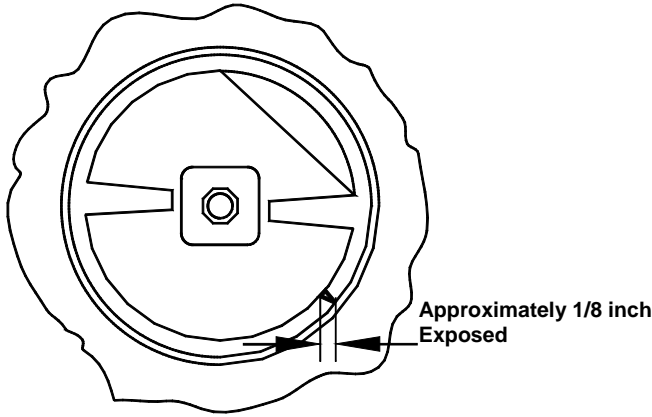

Fig. 19
- g. While maintaining force against the dasher, rotate it slowly until the tongue of the dasher engages the groove in the drive system at the rear of the cylinder. The outer most portion of the dasher should be recessed approximately 1/4" (6 mm) to 3/8" (10 mm) inside the freezing cylinder. No part of the dasher should extend outside the cylinder. Scraper blades should be visible, extending approximately 1/8" (3 mm) beyond the dasher (Fig. 19).